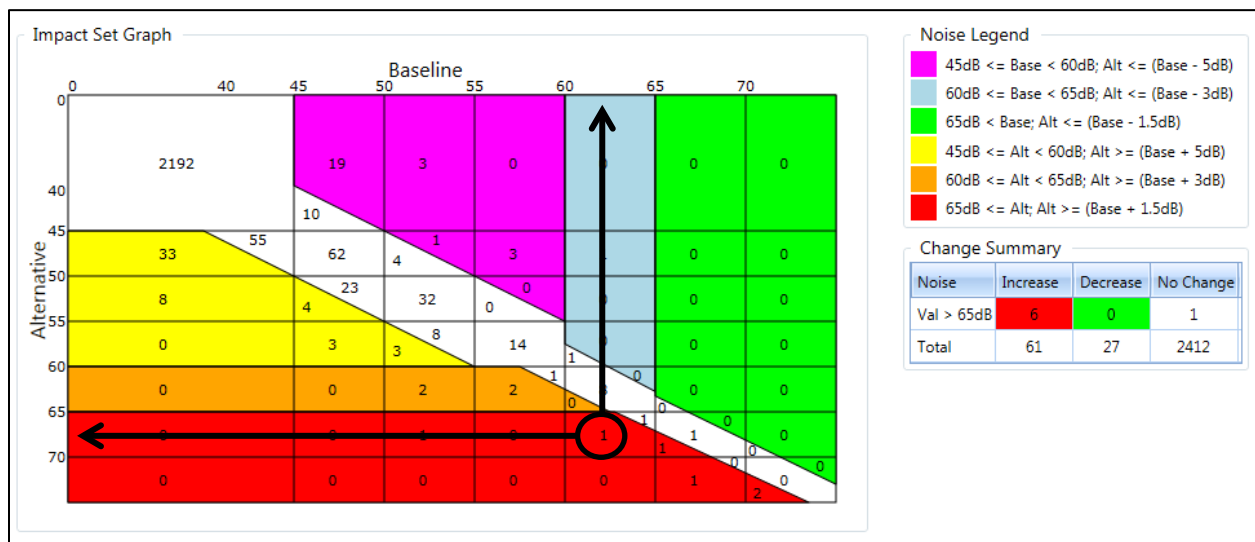

Figure 5-61 Sample Impact Set Graph
2. The color coding of warm (red, orange, and yellow) and cool (purple, blue, and green) colors allows easy reference when there has been a reduction or an increase in noise (Figure 5-61).
3. Example (Figure 5-61):